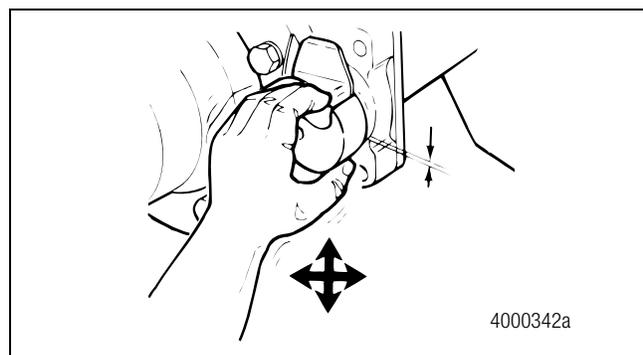

Figure 4.6
1. Move the camshaft as shown in Figure 4.6. Use a dial indicator to verify that the cam-to-bushing radial free play is within specification.